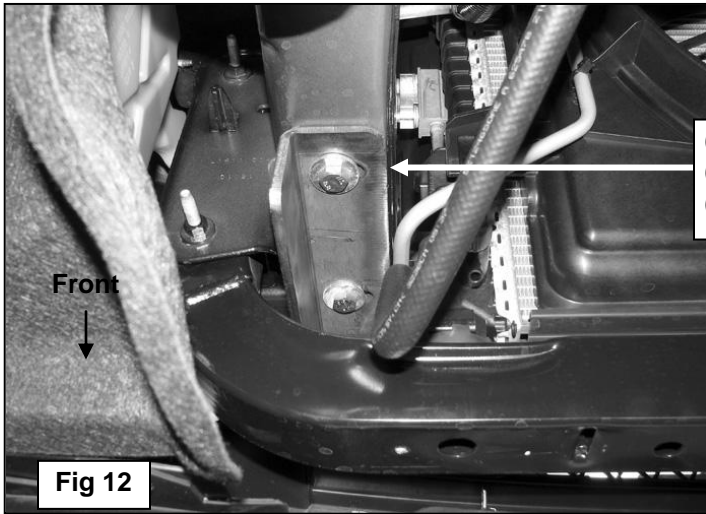

Fig 12
3. Locate the (2) threaded holes in the bottom of the frame channel, **(Figure10)**. Select the driver side Frame Mounting Bracket. Hold the Bracket with the mounting tab flat, **(Figure11A)** insert it through the opening and rotate up into position in line with the factory threaded holes, **(Figure11B)**. Bolt the Bracket to the frame channel with (2) 10mm x 30mm Hex Bolts, (2) 10mm Large Flat Washers and (2) 10mm Lock Washers, **(Figure 12)**. Snug but do not fully tighten the hardware at this time. Repeat this step for passenger side Frame Bracket installation.